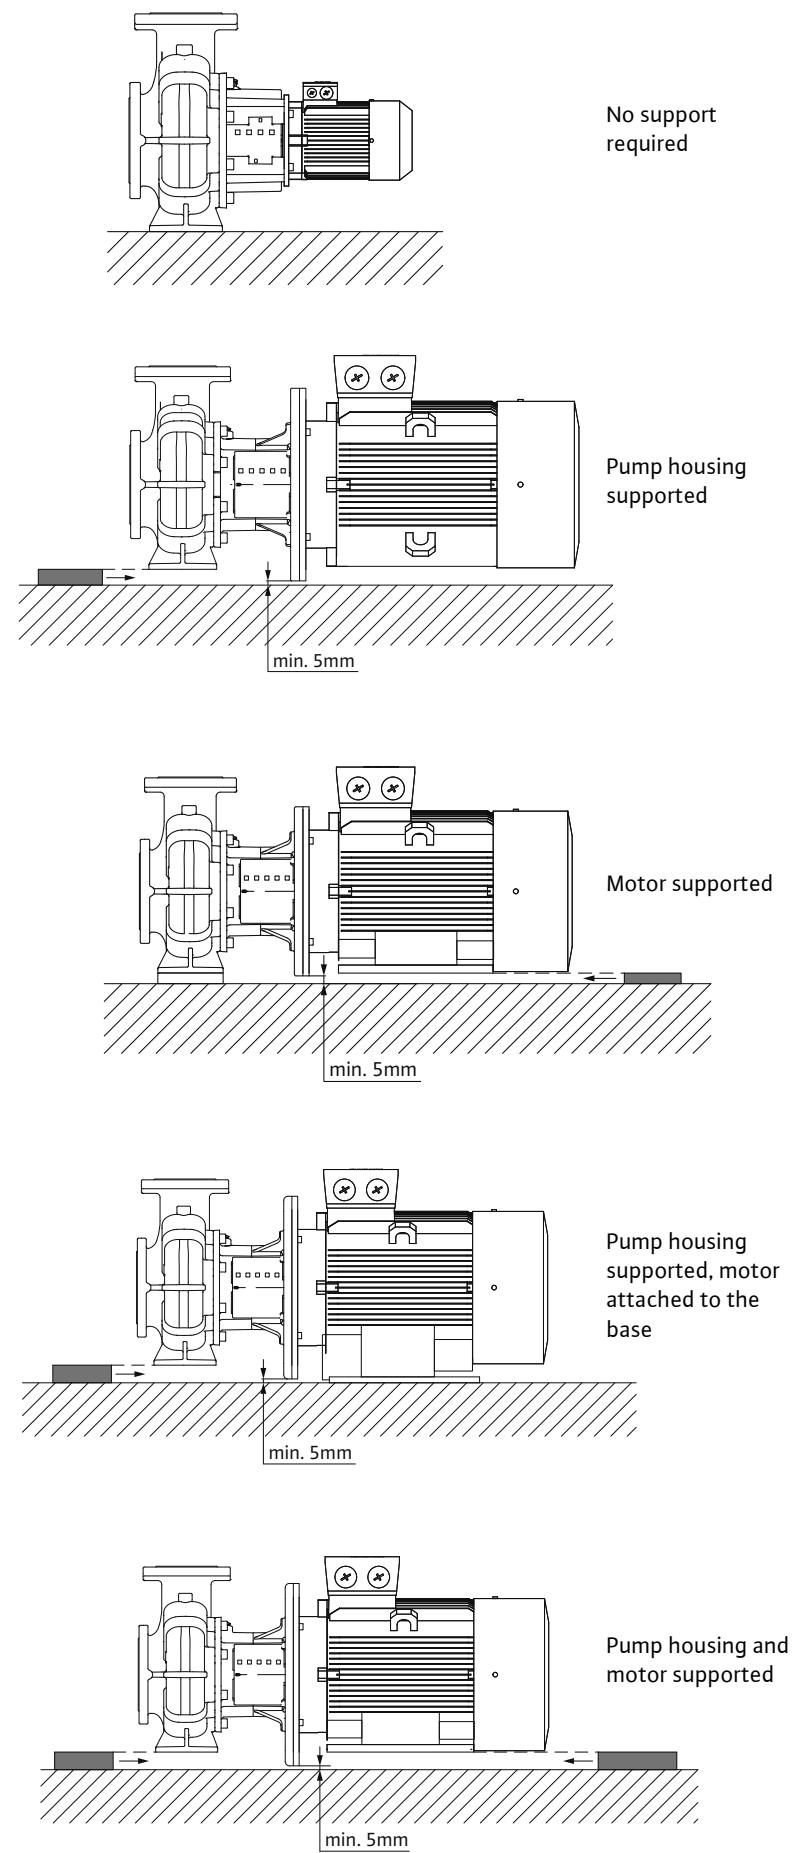

Fig. 14: Installation examples BL
- For pumps of BL type, the motor must be supported from a motor power of 18.5 kW, see installation examples BL (Fig. 14).